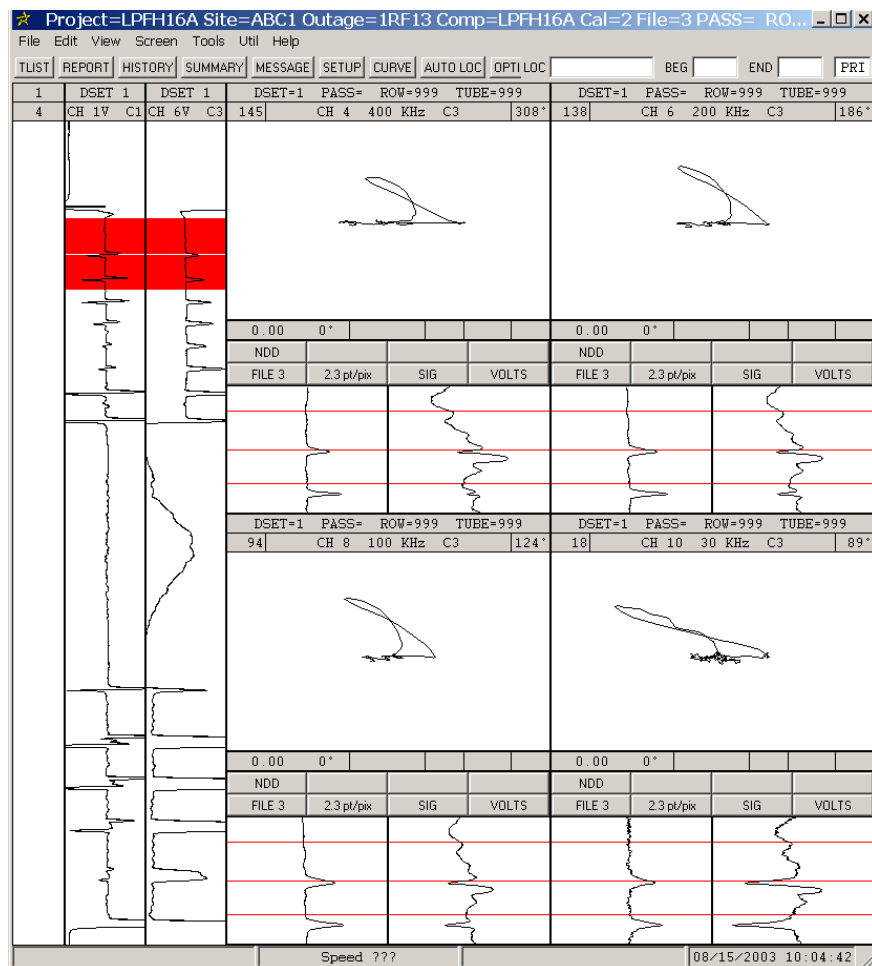

Figure 1-11. Analysis Screen - Absolute Channels - Rotation Setup
- STEP 18:** Repeat the applicable preceding steps for channels 4, 6, 8, and 10. The final result for all absolute channels should be *lift-off horizontal with flaws going up* as shown in Figure 1-11.